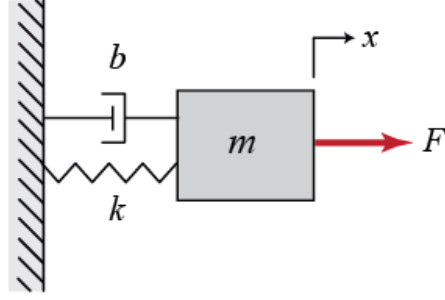

Figure 1
1. **Mass Spring Damper System Simulation** You are all familiar with Mass Spring Damper (MSD) system depicted in Fig. 1, [2]. In a nutshell, the spring force is proportional to the displacement of the mass, x , and the viscous damping force is proportional to the velocity of the mass, $v = \dot{x}$. Note also that $x = 0$ corresponds to the position of the mass when the spring is not stretched, and positive x direction, (\longrightarrow), is indicated on the figure.